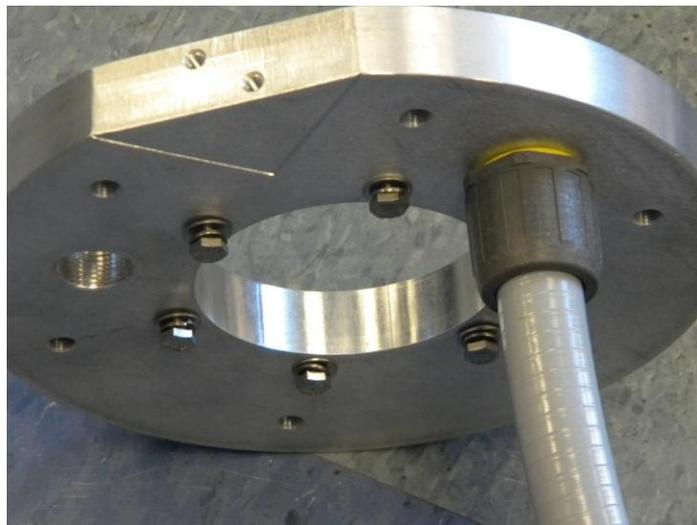

Figure 3-8. Cable run through hole in collar with Liquid-tight conduit attached from below.
5. Run the cable through a Liquid-tight conduit to the DCP enclosure box and screw the threaded end of the conduit to the collar hole through which cable is run (fig.3-8).